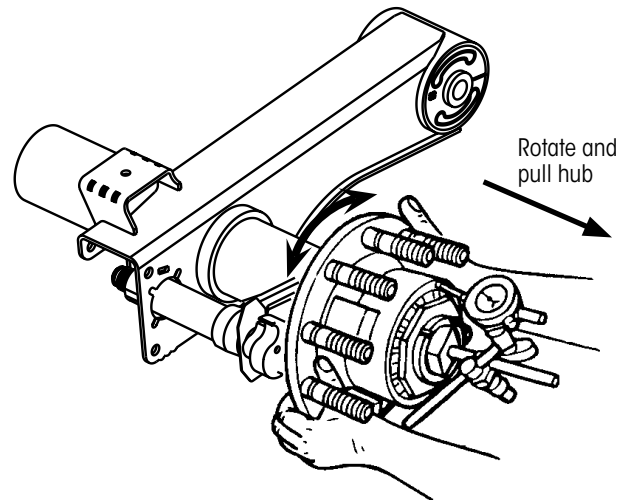

Figure 6: Checking outward end-play
9. While still grasping hub (Figure 6), **pull** hub outward **while rotating** hub slightly in both directions (between two hub cap fastener holes) until dial indicator reading remains constant. **Record reading.**